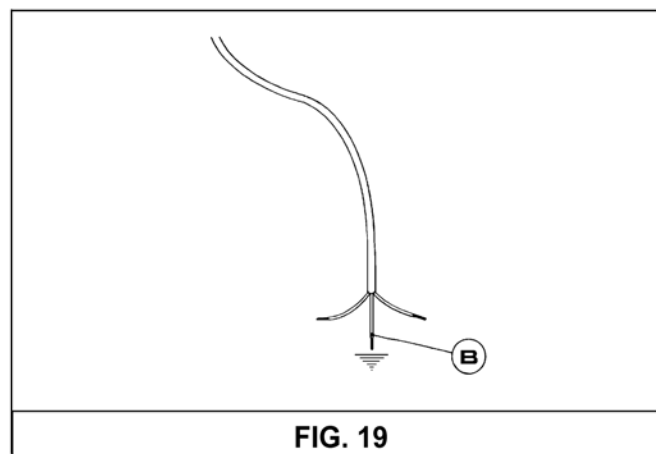

FIG. 19
*If the power supply cable is replaced, the installer should leave the ground wire longer than the phase conductors (fig. 19) and comply with the recommendations given in paragraph 9.*